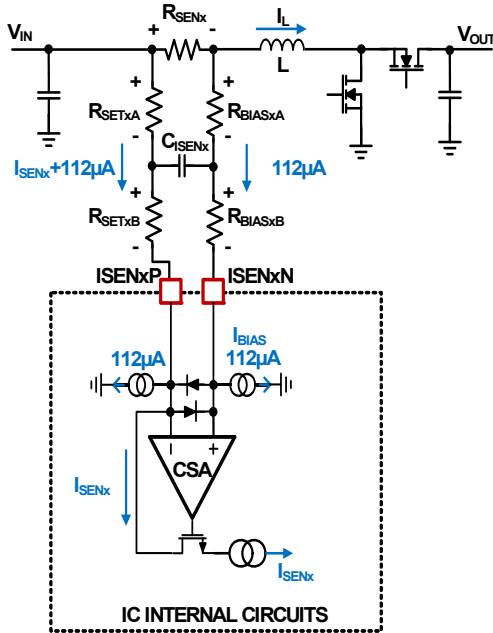

FIGURE 60. CURRENT-SENSING BLOCK DIAGRAM
The ISL78227 peak current control architecture senses the inductor current continuously for fast response. A sense resistor is placed in series with the power inductor for each phase. The ISL78227 Current Sense Amplifiers (CSA) continuously sense the respective inductor current as shown in Figure 60 by sensing the voltage signal across the sense resistor R_{SENx} (where “x” indicates the specific phase number and same note applied throughout this document). The sensed current for each active
phase will be used for peak current mode control loop, phase current balance, individual phase cycle-by-cycle peak current limiting (OC1), individual phase overcurrent fault protection (OC2_PEAK), input average Constant Current (CC) control and average overcurrent protection (OC_AVG), diode emulation and phase drop control. The internal circuitry shown in Figure 60 represents a single phase. This circuitry is repeated for each phase.
The RC network between R_{SENx} and $ISENxP/N$ pins as shown in Figure 60 is the recommended configuration. The $ISENxP$ pin should be connected to the positive potential of the R_{SEN_CHx} through resistor R_{SETx} , where in Figure 60 R_{SETx} is composed by R_{SETxA} plus R_{SETxB} . R_{SET} is used to set the current sense gain externally.
Since there is an $112\mu A$ bias current sinking to each of the $ISENxP$ and $ISENxN$ pins, R_{BIASx} with same value to R_{SETx} should be placed between the $ISENxN$ pin to the low potential of the R_{SENx} , where in Figure 60 R_{BIASx} is composed by R_{BIASxA} plus R_{BIASxB} .
It is recommended to have $R_{SETxA} = R_{BIASxA}$ and $R_{SETxB} = R_{BIASxB}$, and insert a capacitor C_{ISENx} between them as shown in Figure 60. This will form a symmetric noise filter for the small current sense signals. The differential filtering time constant equals to $(R_{SETxA} + R_{BIASxA}) \cdot C_{ISENx}$. This time constant